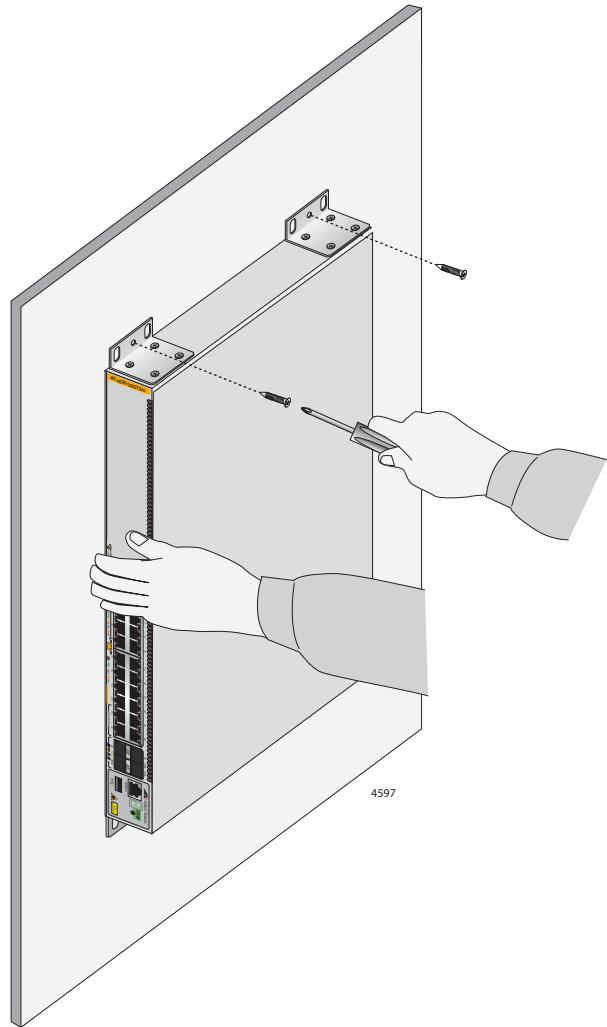

Figure 51. Installing the Switch on a Concrete Wall
7. Have another person hold the switch at the selected wall location while you secure it to the wall with the M4x32mm screws provided. Refer to Figure 51.